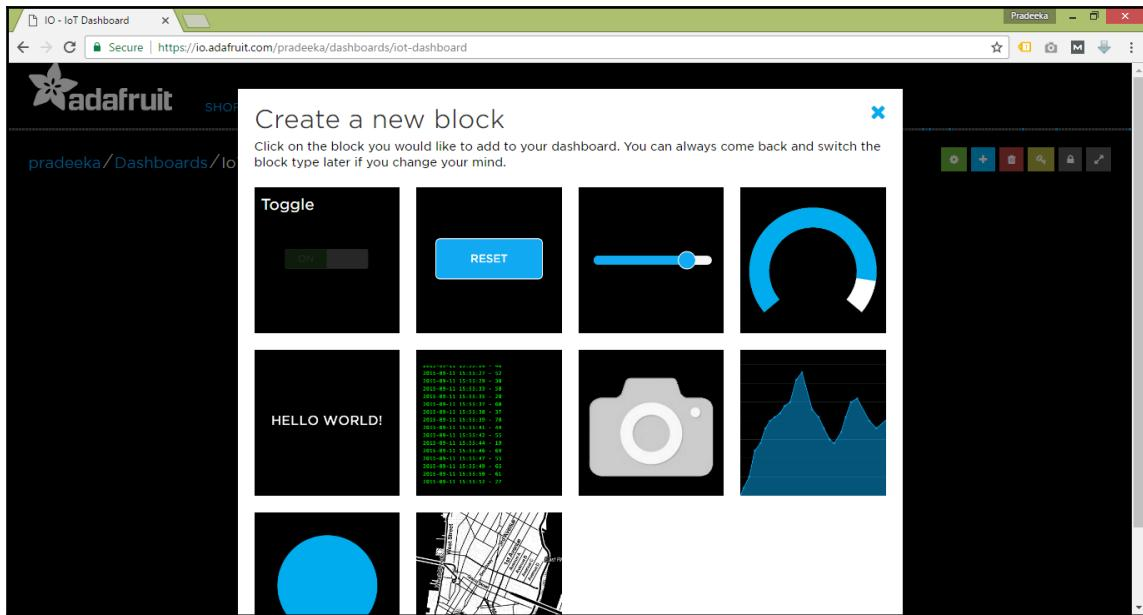

Figure 4-36: Toggle block
3. Click the **Toggle** box (Figure 4-36):